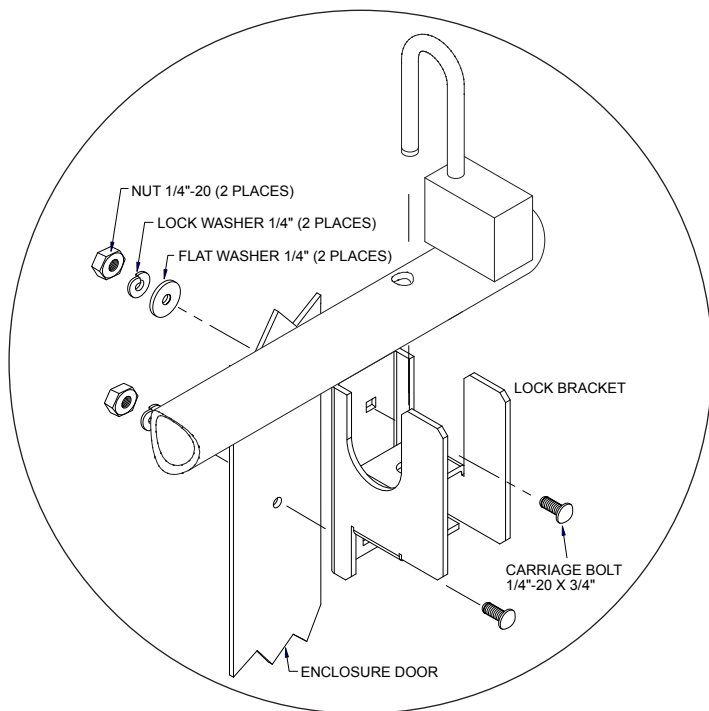

Figure 5, Lock Bracket Alignment and Installation
10. Install the lock bracket. See Figure 5.
The security bar and lock bracket lock holes must line up before securing the lock bracket to the enclosure door, see Figure 5.